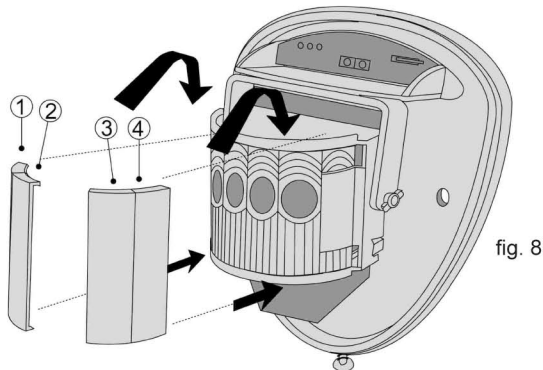

fig. 8
- The detector module is fitted with two sliding shutters to reduce the detection angle. An additional set of curtains is provided should the beam pattern need to be narrowed even further, e.g. if the minimum detection angle of 10 degrees is required. The curtains are fitted to the pan and tilt module as indicated in fig. 8 below. Each section of the detector's lens gives a coverage pattern of approximately 10 degrees. **See fig. 8.**